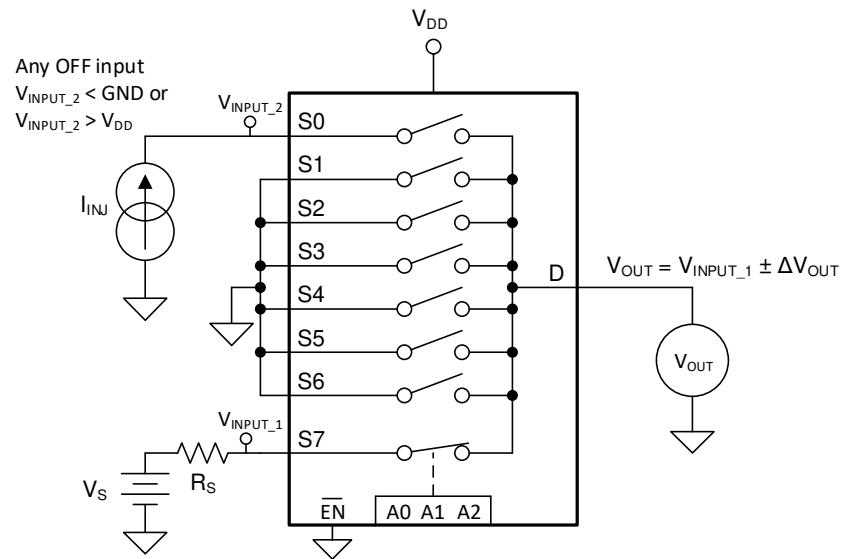

**Figure 7-10. Bandwidth Measurement Setup**
Bandwidth is defined as the range of frequencies that are attenuated by less than 3 dB when the input is applied to the source pin (Sx) of an on-channel, and the output is measured at the drain pin (D) of the device. **Figure 7-10** shows the setup used to measure bandwidth.